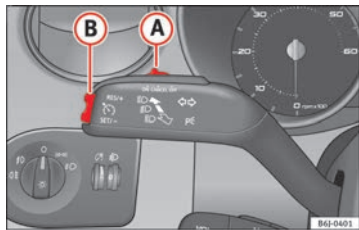

Fig. 129 Turn signal and main beam headlight lever: switch and rocker switch for the cruise control.
- Move the control ⇒ Fig. 129 (A) to the left to **ON**.